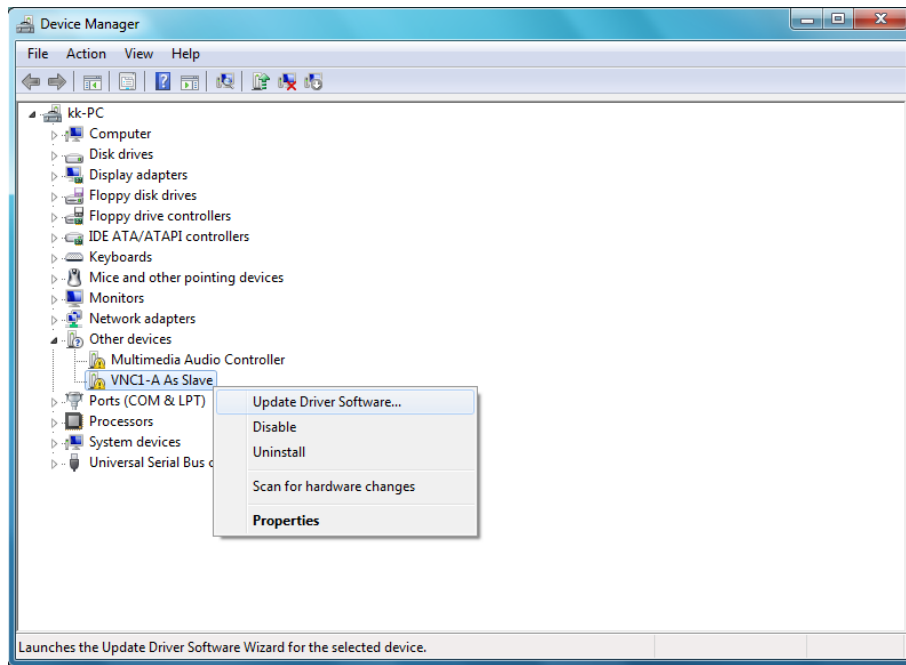

Fig. 2-25
- ◆ Double click the CDMuninstallerGUI.exe ( The uninstaller program and the USB drivers are in the disk which is provided by us. You can copy the program to anywhere in your computer. As shows in Fig.2-25, the path is C:\USB Drivers\USB Virtual COM Port Drivers Uninstaller\_v1.4\CDMuninstaller\_v1.4.